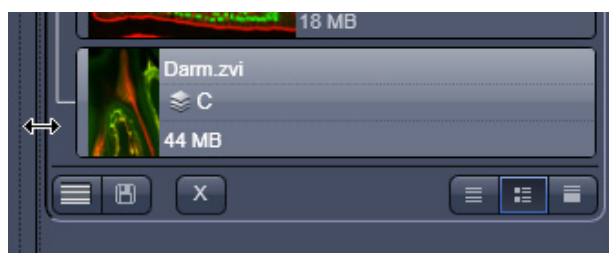

Fig. 337 Enlarging the image view
- In case long filenames are used the whole section can be dragged to the left and thereby enlarged (Fig. 337).